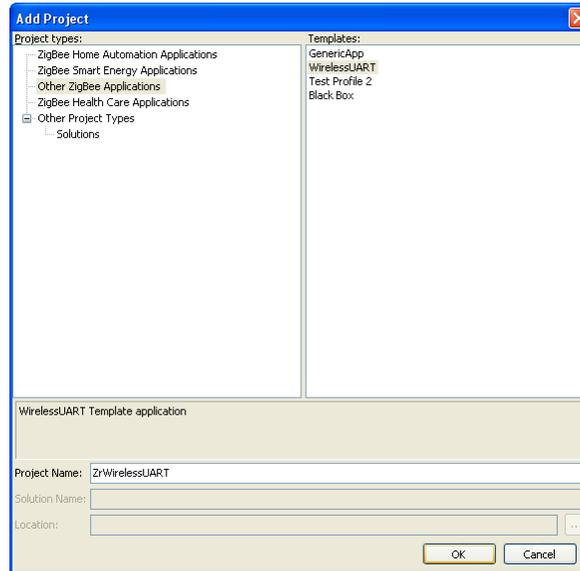

Figure 5-12. Add New Project Page
1. From the BeeKit main window, select Solutions -> Add Project. The Add Project window appears as shown in Figure 5-12.